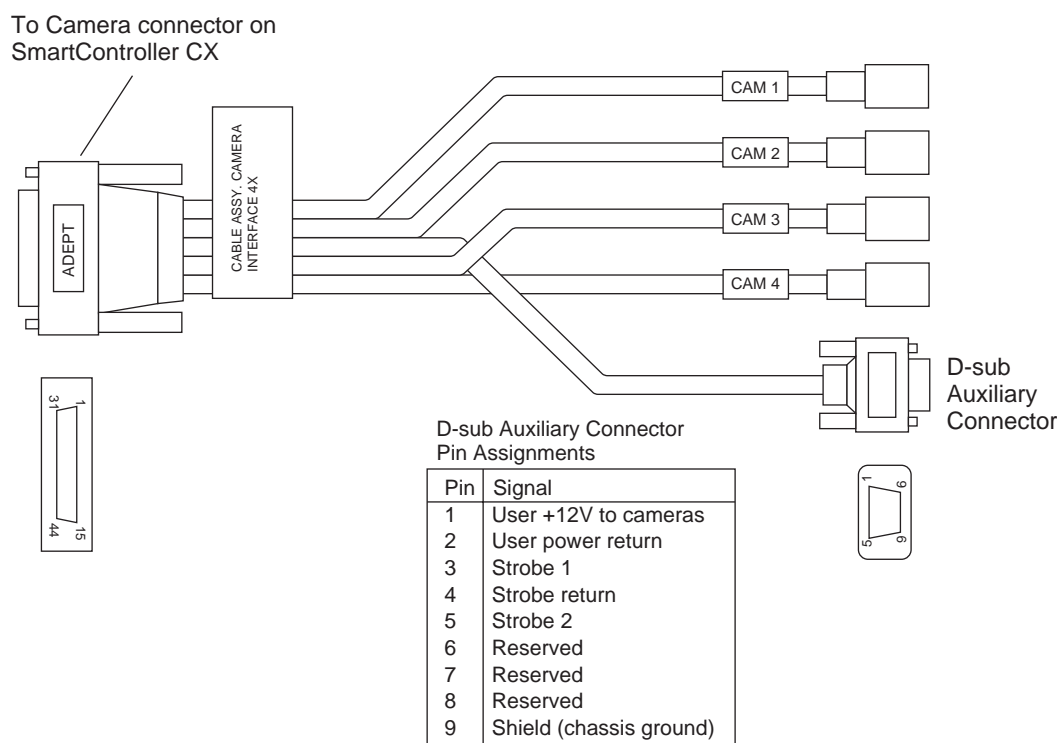

Figure 4-2. Four-Camera Breakout Cable For RS-170 Cameras
Similarly, due to the current limitation of the sAVI board, it cannot supply enough current to operate all four cameras from the four-camera cable. You must supply the external power to operate the cameras when using this cable. This power must be routed through the 9-pin D-sub connector, see Figure 4-2 and Table 4-2 for pin information. Connect the power and ground on the breakout cable to a 12V power supply producing 2.0A at 12VDC.
4. Connect the power supply and strobe lamps through the 9 pin D-sub connector (see **Figure 4-2 on page 71** and **Table 4-2 on page 76** for pin assignments).